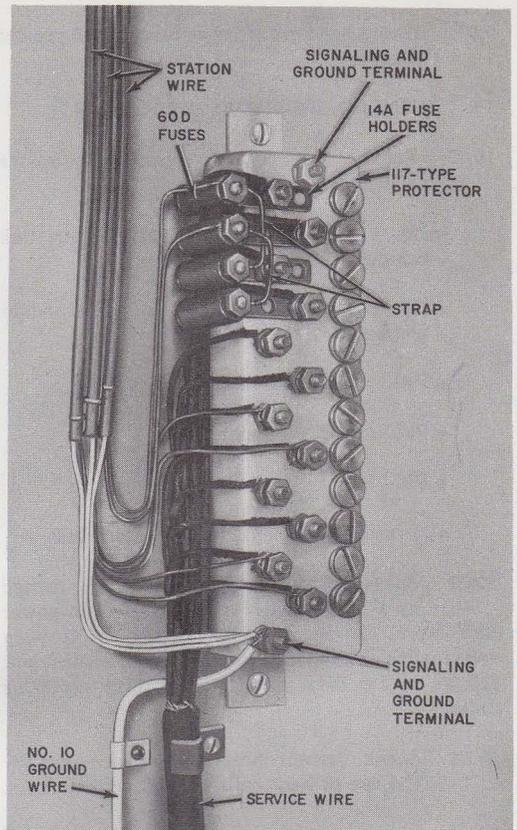

Fig. 80—Method of Installing 60D Fuses and 14A Fuse Holder on 117-Type Protector (Battery Feed Circuit Illustrated)
10.05 A typical installation of the 14A fuse holder and 60D fuse is shown in Fig. 80. The fuse holder fits on the binding post (under the bottom nut) of a protector, protector terminal, or connecting block. One end of the 60D fuse attaches to the fuse holder and the station wire is connected to the other end. This places the fuse in series with the line. As only one station wire can be attached to a fuse, a connecting block arrangement is required to terminate additional station wires.
11.08 Fig. 80 illustrates two battery feeder pairs terminated at a 117-type protector equipped with 14A fuse holder and 60D fuses. The pairs are strapped on the PBX side of the fuses.